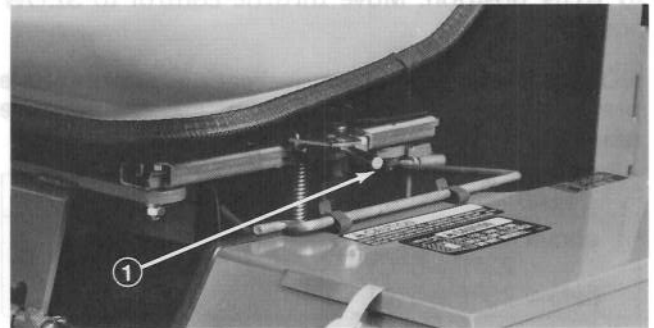

Figure 27
**Seat Adjusting Levers (Fig. 27)** — To adjust standard seat, push lever backward and slide seat to the desired position. Release lever to lock seat in place. The suspension seat may be adjusted forward or rearward by pulling out the lever at the right side of the seat, sliding the seat to the desired position, and releasing the lever. The weight adjustment knob may be adjusted for any operator's comfort.